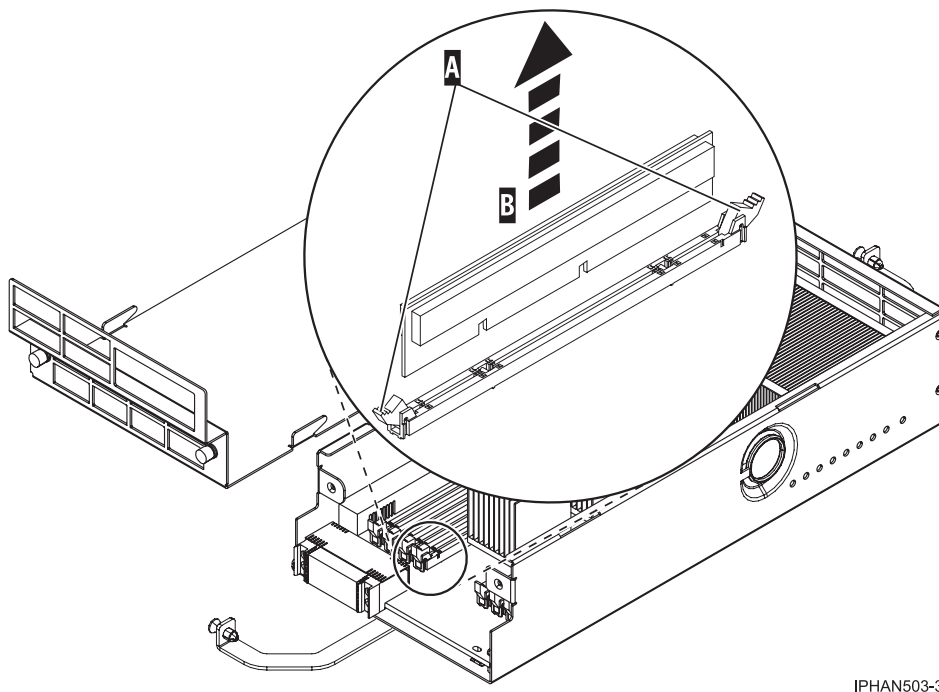

Figure 10. Removing a memory module
6. As shown in Figure 10, unlock the memory module by pushing the connector tabs (A) out. The lever action of the tabs forces the memory module (B) out of the connector.
7. Lift the memory module (B) out of the connector.